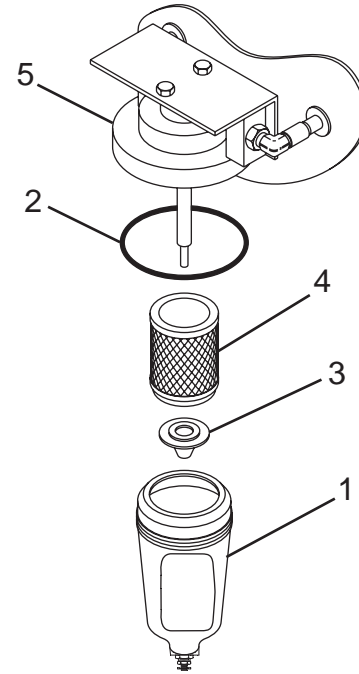

Figure 102
2. Remove (unscrew) the bowl assembly (Figure 102, Item 1) and O-ring (Figure 102, Item 2).
3. Remove the retainer (Figure 102, Item 3) and filter element (Figure 102, Item 4) from the head (Figure 102, Item 5).
4. Install a new filter element (Figure 102, Item 4) and retainer (Figure 102, Item 3).
5. Clean the bowl assembly (Figure 102, Item 1) using warm, soapy water.
6. Inspect the O-ring (Figure 102, Item 2). Replace if damaged.
7. Install the O-ring (Figure 102, Item 2) and bowl assembly (Figure 102, Item 1) on the filter head (Figure 102, Item 5).